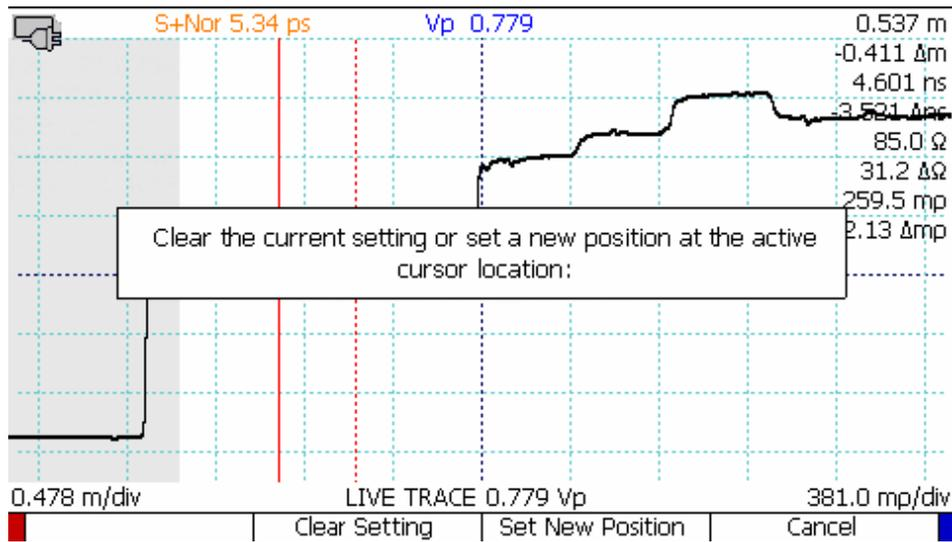

Figure 4.14. The Zero Offset menu. Note that the cursor position is currently at 0.537 m in this example.
3. The *Zero Offset* menu appears. Note that measurement for the cursor position has not changed yet (Figure 4.14).